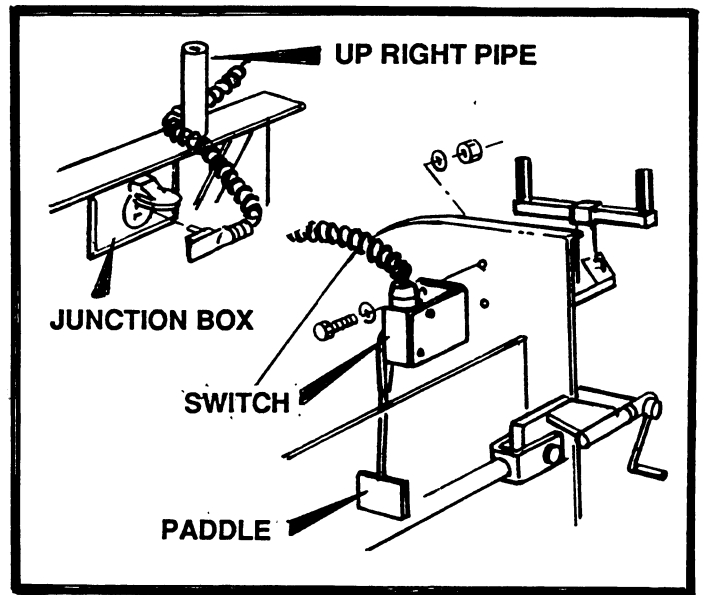

FIGURE 12A
1. To install the paddle on the screed extension; extend the screed 6 inches and mount paddle on end gate as shown. Install the same way on left end gate. See figure 12A.
2. The routing of the electric cord is shown in figure 12A, for right side. The left side electric cord should be placed over top of screed lift bracket to the outlet box.